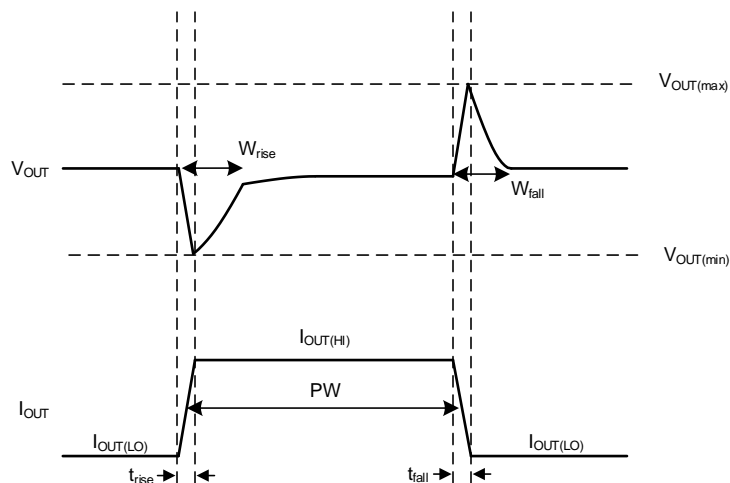

Figure 59. Simplified Load Transient Waveform
The transient response peaks ($V_{OUT(max)}$ and $V_{OUT(min)}$) are improved by using more output capacitance; however, using more output capacitance slows down the recovery time (W_{rise} and W_{fall}). Figure 59 shows these parameters during a load transient with a given pulse duration (PW) and current levels ($I_{OUT(LO)}$ and $I_{OUT(HI)}$).